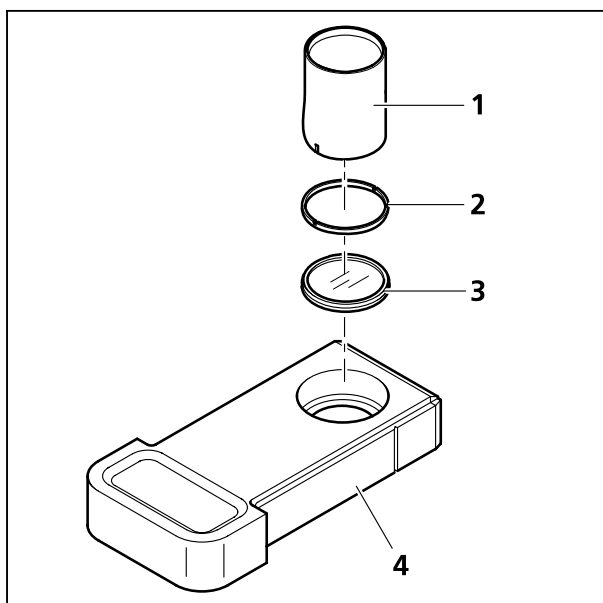

Fig. 4-9 Exchange of emission filter
- Use multi-purpose tool (Fig. 4-9/1) to unscrew the retainer ring (Fig. 4-9/2). Take the filter out (Fig. 4-9/3).
- Screw retainer ring (Fig. 4-9/2) on again.
- Introduce emission filter slide (Fig. 4-9/4) into spinning disc unit until mechanical stop position.